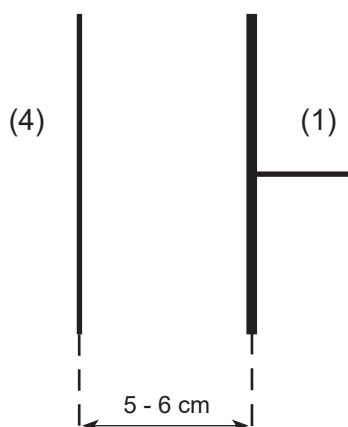
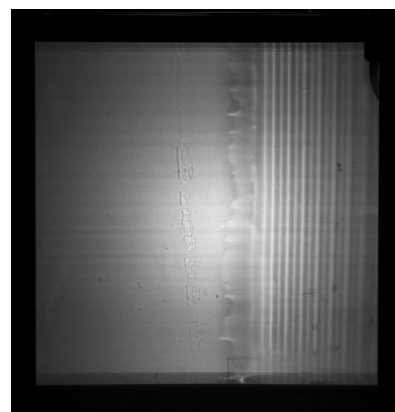

Fig. 26
Fig. 27
Add water in the tank (about 1 cm), mount on the vibrator the dipper for parallel waves (1) and adjust the frequency to a value around 40 Hz. Stop the image and measure the wavelength λ . At this point, put the long barrier parallel to the dipper, at a distance of 5-6 cm (fig. 26). *When you turn off the synchronism between the vibrator and the light source, on the screen you will see that the space between the dipper and the long barrier is venue of stationary waves, i.e. waves that do not propagate, as is shown in figure 27.* Measure, with a ruler, the distance d between two light lines, corresponding to two nodes; you can verify that: